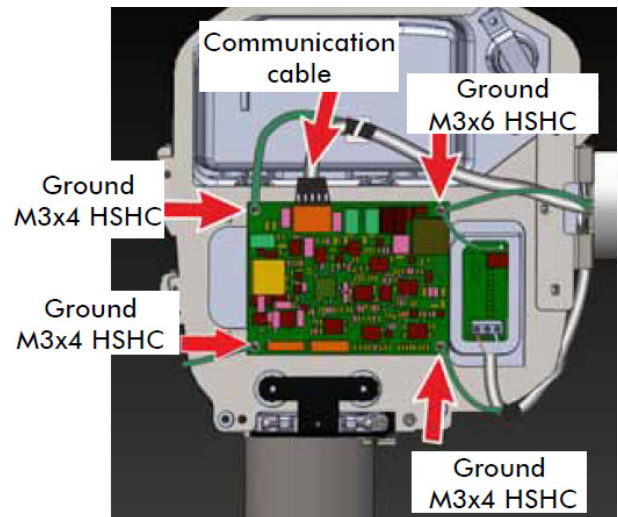

Figure 86
- Press the connector locking tab and pull the cable connector (communication cable) connected to J4 connector of the control board as shown in the Figure 86 .
- Disconnect the INV power cable from the sealing board 3 pin connector-pins 1 & 3 (hold the connector firmly by hand while removing) using Jewel screw driver as shown in the Figure 86 .
- Remove the screws used for GND wire connections for both cables at all 4 corners of the Control board using 2.5mm Allen key as shown in Figure 86 .
- Fix the new Control Board by connecting J3 connector of control board to J3 connector of sealing board and fix the scissor-arm earthing cable and sealing board earthing wires(Ring terminals) to the nearest control board fixing screw(M3x6 HSHC) using 2.5mm allen key as shown in Figure 86 .
- Connect the INV power cable to the sealing board 3 pin connector (Non polarised pin terminal wires to pins1 & 3) using Jewel screw driver as shown in Figure 86 (Hold the connector firmly while tightening the terminal screws) and fix its GND ring terminal to the nearest control board
fixing screw(M3x4-HSHC) using 2.5mm allen key as shown in the Figure 86 .
- Route the communication cable and connect it to the J4 connector of the control board as shown in Figure 86 and fix its ground ring terminal to the nearest control board fixing screw(M3x4 HSHC) as shown in the Figure 86 .
- Fix the tube head ground ring terminal(near the colimator) with M3x4 HSHC screws on the control board using 2.5mm allen key as shown in Figure 86 .